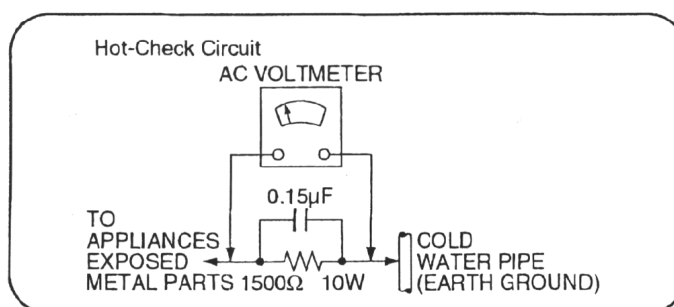

Fig. 1
### 1.1.2. LEAKAGE CURRENT HOT CHECK (See Figure 1.)
2. Connect a  $1.5k\Omega$ , 10 watts resistor, in parallel with a  $0.15\mu F$  capacitors, between each exposed metallic part on the set and a good earth ground such as a water pipe, as shown in Figure 1.